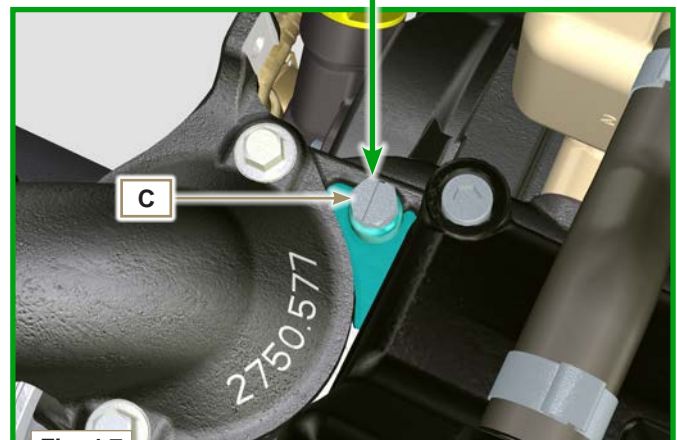

Fig. 4.7
- 2 - Loosen the screw **C** release any air and tighten the screw **C** (Tightening torque of **8 Nm** - Fig. 4.7).
NOTE: The **MAX** filling level for exhaust manifold **B** is in correspondence of capscrew **C**, complete the coolant refilling procedure as soon as the coolant starts leaking out of capscrew **C** (Fig. 4.7).